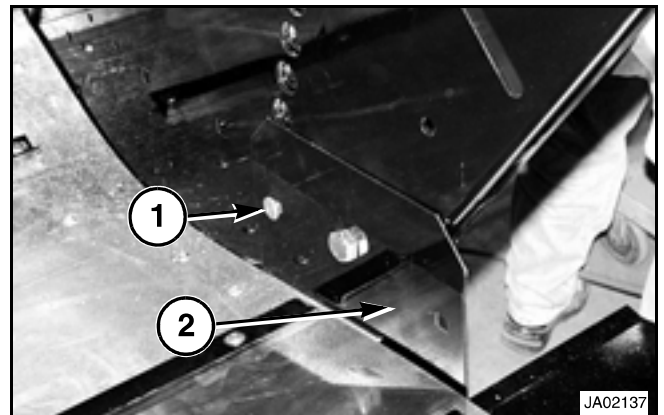

FIG. 267
FIG. 267: FLEX - Remove 3/8-16 X 3/4 inch short neck carriage bolt (1) with hex flange self locking nut and 5/8 inch divider pivot bolt securing rear filler sheet (2) to pan end and remove Right Hand filler sheet (Left Hand shown).